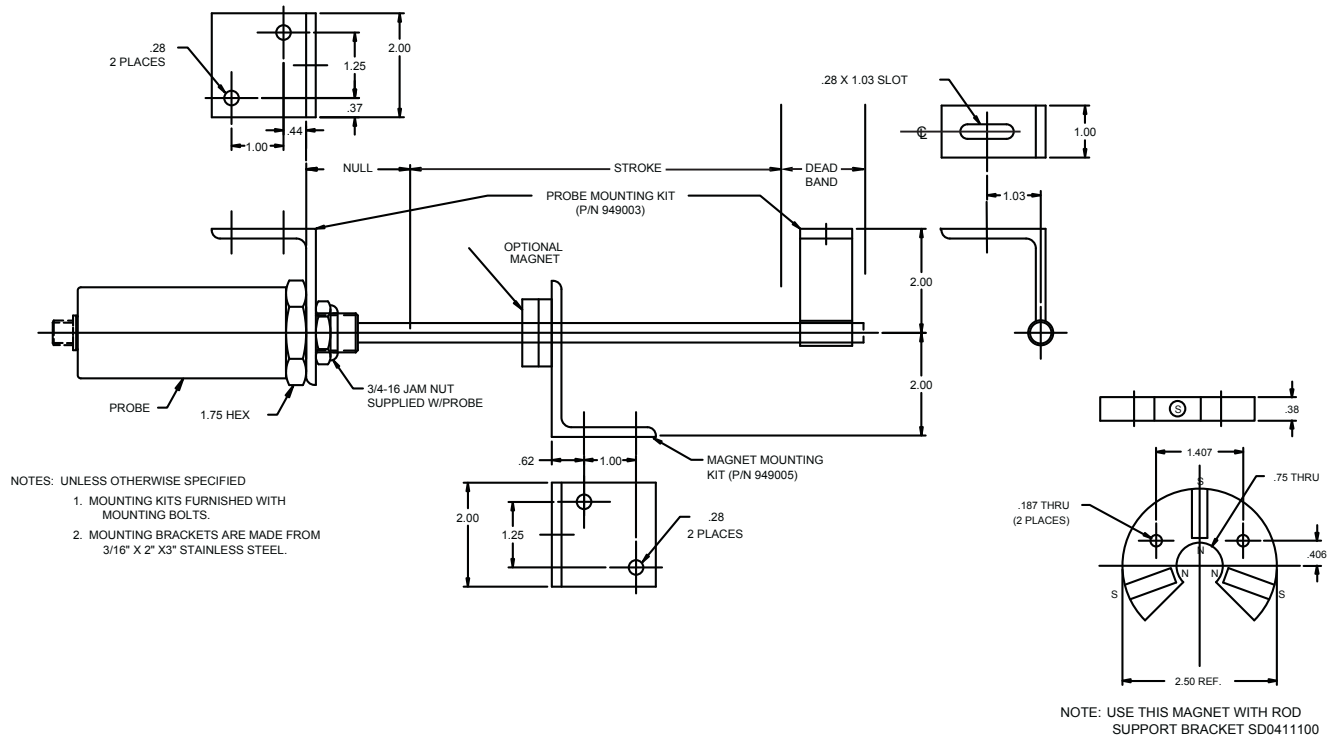

Figure 2-1: Mounting the LDT
**WARNING:** Do not use the blue aluminum cover of the head assembly to tighten the LDT within the bracket (see Figure 2-1). This may damage the LDT and will void your warranty. To tighten the LDT within the bracket, use the 1.75" hex mounting base on the head assembly.